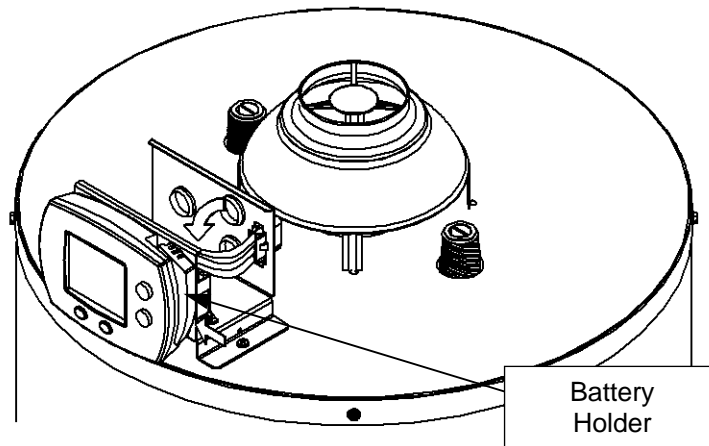

Figure 33
Step 5: Replace the battery holder with the new batteries by depressing the top side of the battery holder and pushing on the right side of the holder. This is shown in Figure 33.